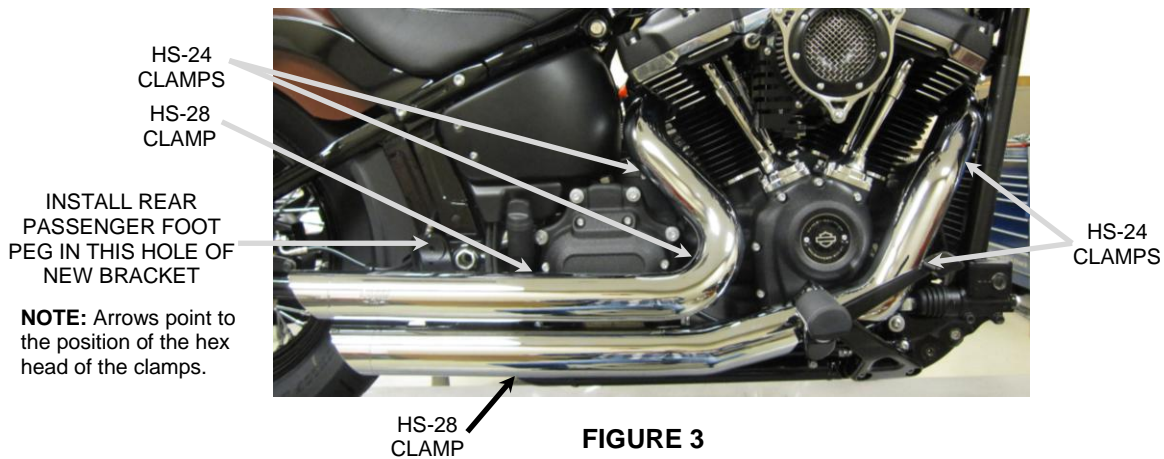

FIGURE 3
17. Install the rear heatshield the same way as the front heatshield. See **FIGURE 3**.
20. Install the right side passenger foot peg in the threaded hole on the new exhaust mount bracket. See **FIGURE 3**. Tighten to factory specifications.